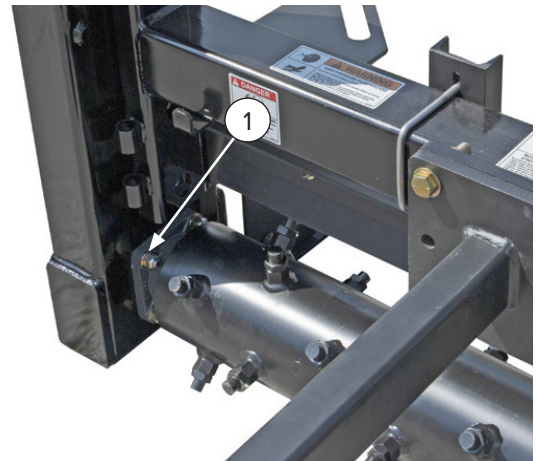

Figure 17
9. Remove the bearing mount bolts (Item 1) [Figure 17].